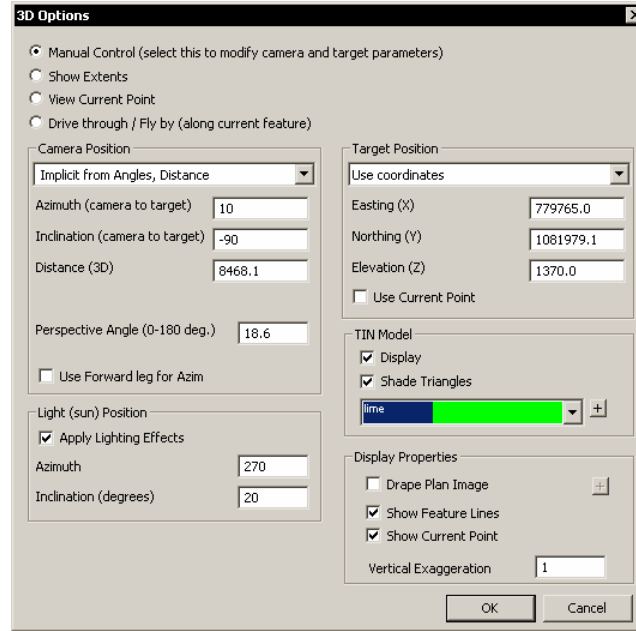

Figure 11.4: 3D Options Dialog
11. View | Active Window (3D) Options. Change your 3D options to match those shown in Figure 11.4. Press OK